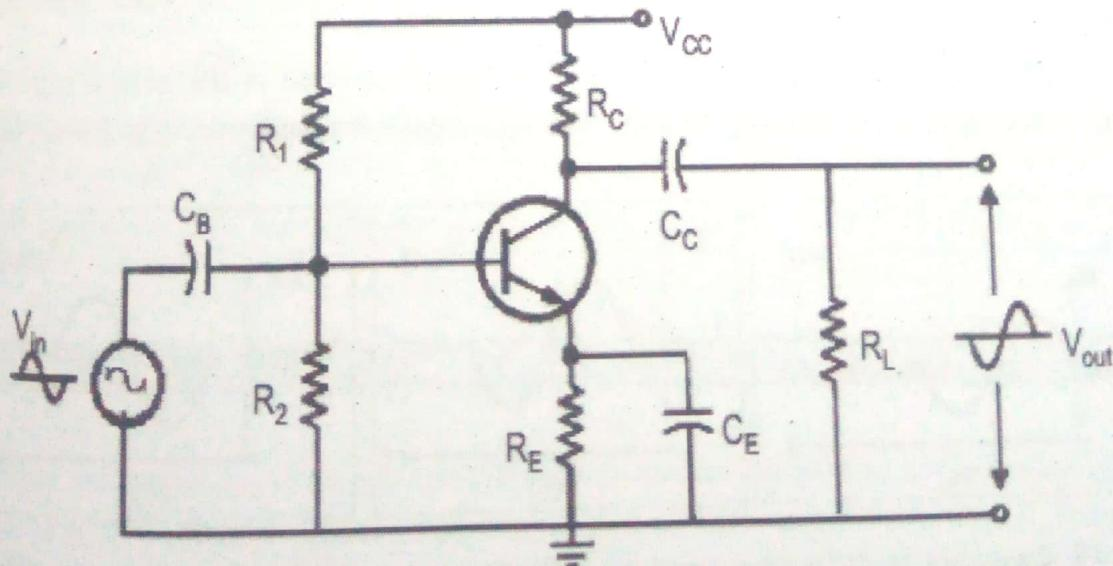

Figure 17: CE amplifier circuit
- The figure 17 shows a single stage CE amplifier.